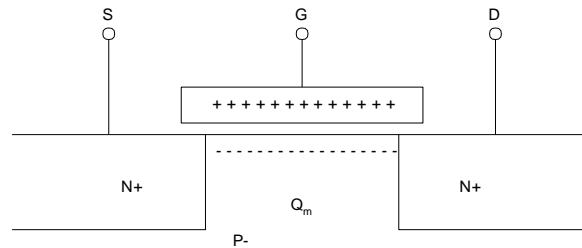

Figure 1-8: Cross-Sectional View of an NMOS Transistor
A cross sectional view of an NMOS transistor is shown in Figure 1-8. When the potential difference between the source (S) and the Drain (D) is small (~ 0 V), and a large potential ($> V_t$) is applied between the gate (G) and source, the transistor will be operating in the triode (or linear) region. The positive gate potential causes electrons to gather below the surface of the substrate near the gate in a process called "inversion". This region of mobile charge forms a "channel" between the source and drain. The amount of charge is a function of the gate capacitance (C_{ox}) and the gate-to-source overdrive voltage: